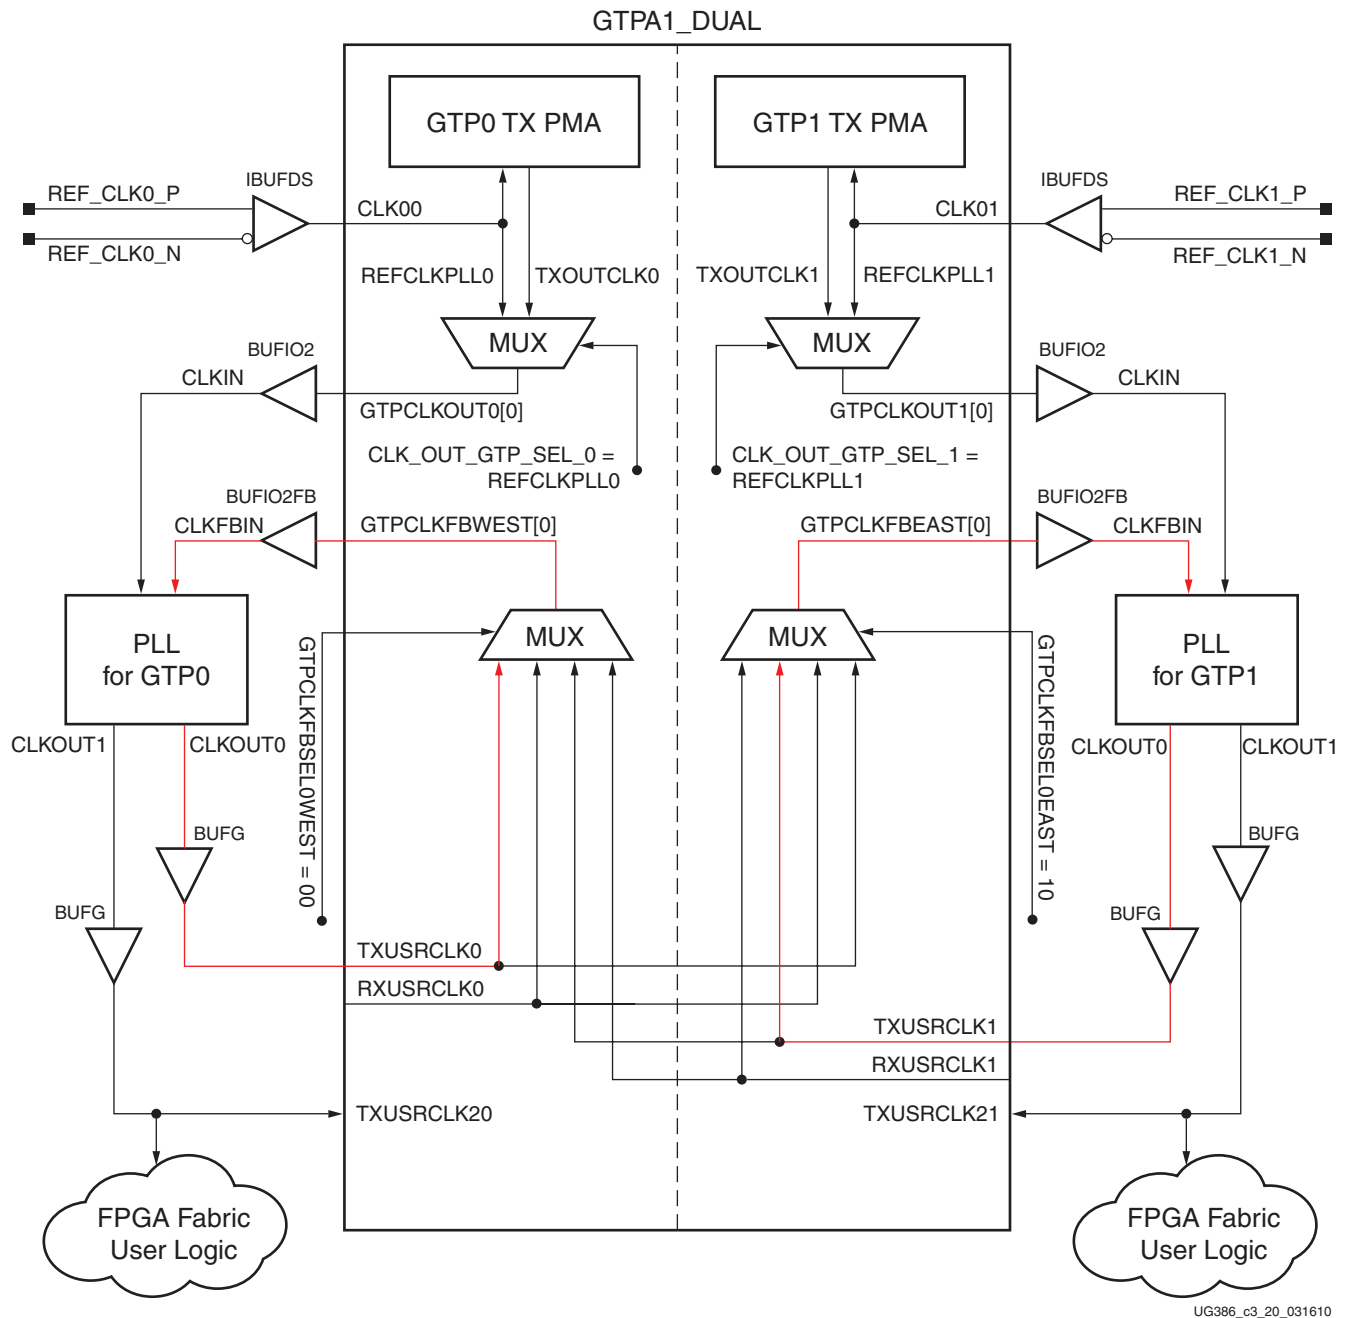

Figure 3-13: GTPA1\_DUAL Clocking (GTP0 and GTP1 Use Different Reference Clocks in TX Buffer Bypass Mode)
**Figure 3-13** shows an example of the GTPA1\_DUAL clocking when the GTP0 and GTP1 transceivers of a GTPA1\_DUAL tile use a different reference clock in TX buffer bypass mode. The clock path through the dedicated GTPCLKFBWEST[0] feedback path is selected to compensate TXUSRCLK0 of GTP0 for temperature and voltage variations. Similarly, the clock path through the dedicated GTPCLKFBEAST[0] feedback path is selected to compensate TXUSRCLK1 of GTP1 for temperature and voltage variations. The PLL or DCM, which is required, uses these feedback paths to adjust TXUSRCLK. Protocols that